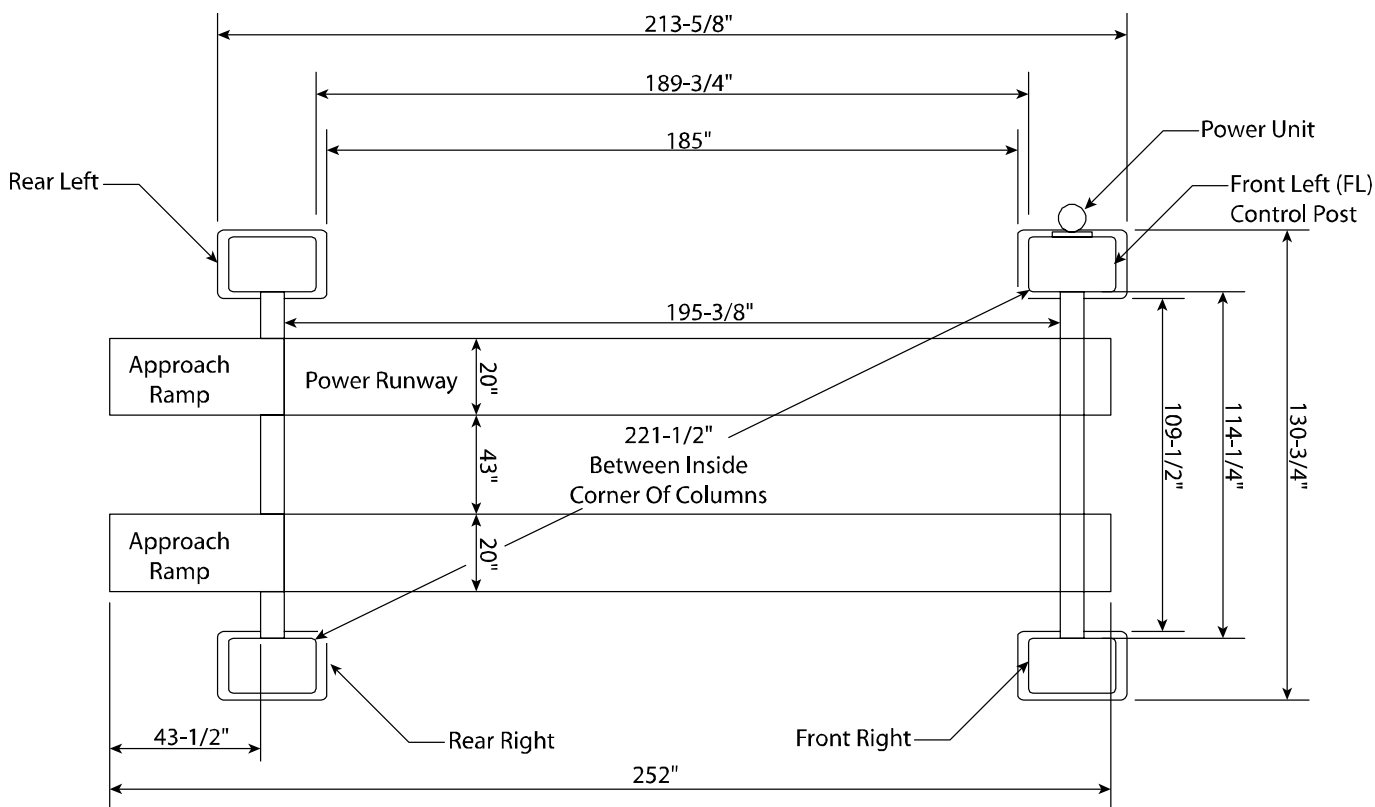
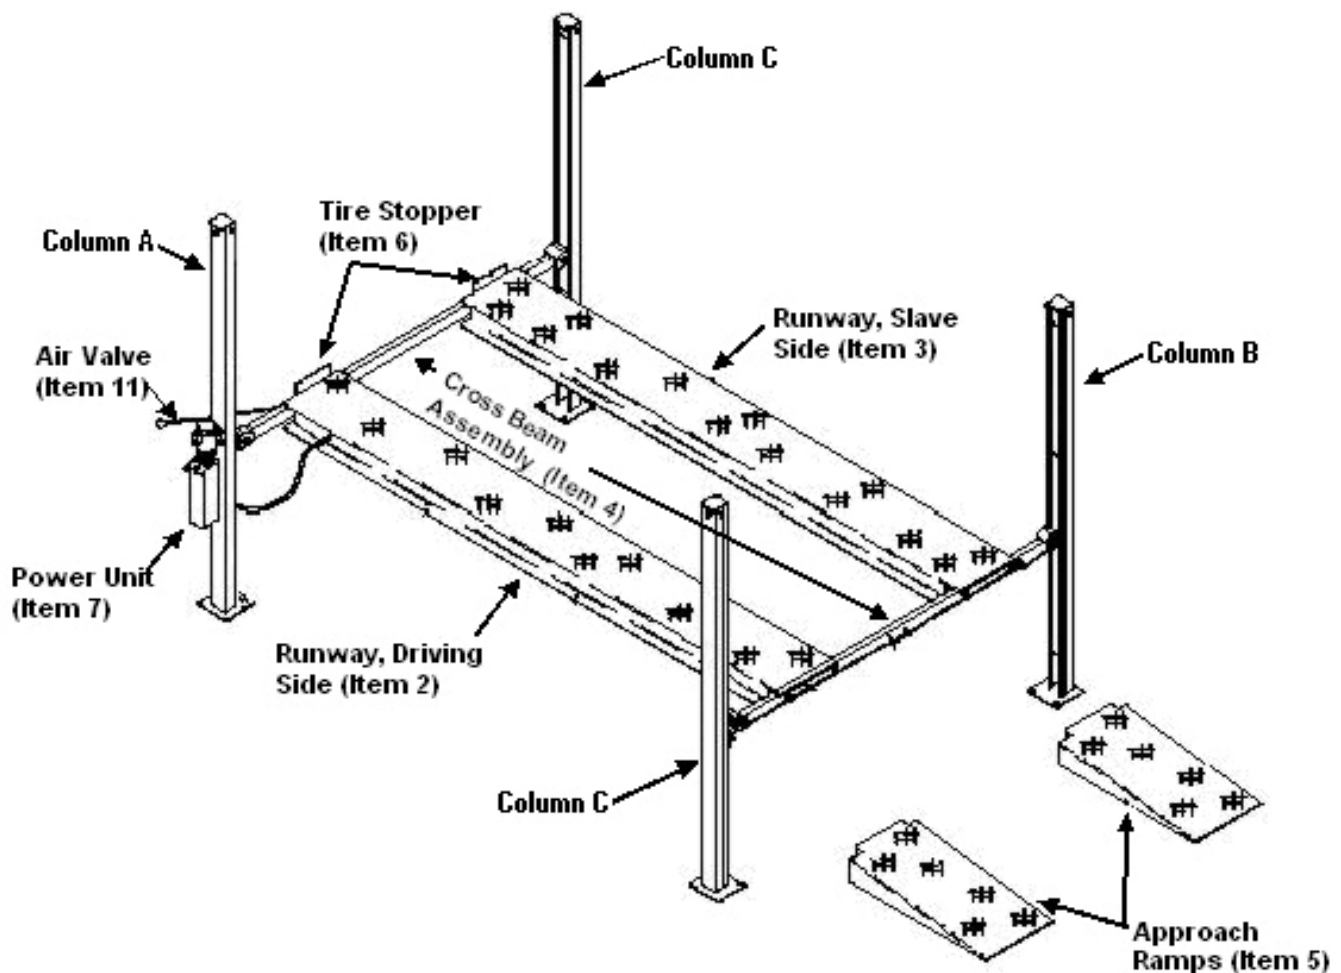

Figure 2-2. Setup Dimensions
Figure 2-3. Major Components
The lift requires the space as shown in figure 2-2. The major components of the lift are shown in figure 2-3 for familiarity. Select the spot on your foundation where the Front Left Control Post is to be located and plan from there.
3. Place runways in predetermined location. The control post (Column A – figure 2-3) and power unit will be located on the front left as shown on figure 2-2. The power runway (Runway, Drivers Side (item 2 in parts list) will also be on the left side. The control post is located in the front left corner. At this time, there are no other configurations available for this lift.
1. Refer to figure 2-3 and position the three remaining posts in proper corners with cable mounting holes closest to center of lift. The column locations, and item/part numbers/descriptions from the parts listing are as follows: